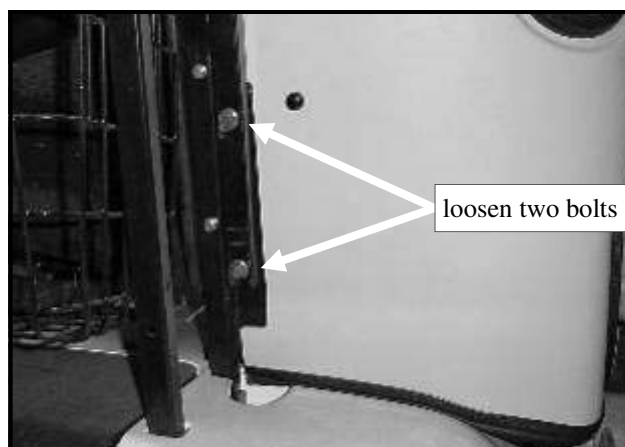

Fig. 9.1 (view from lower rear of passenger's side)
9.1 If the seal is too tight or too loose, the side frame can be moved out to provide more clearance or in to provide a better seal. As in step 1.3, temporarily remove drain tubes. Per fig. 9.1, loosen the two rear support bolts. Move the side frame inwards or outwards in the slots to desired fit.